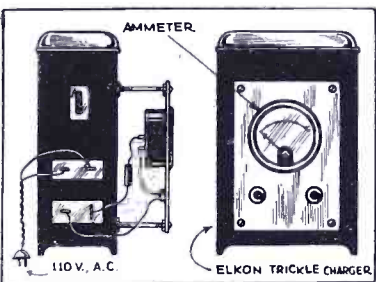

Fig. 4, above
**A** GOOD, CHEAP, LOW-READING OHMMETER. By using a trickle charger in series with a 0-1 ammeter and a resistor, it is possible to read quite accurately, resistances from 0 to about 300 ohms. As shown in Fig. 4, the units may be mounted together for convenient handling. The resistor is chosen so that the pointer is at the right end of the scale, just as any other ohmmeter.